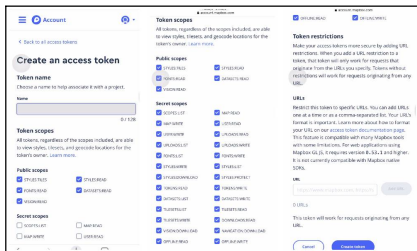

Figure4
2.5 Enter token name and select applicationscopes, then click on "create token". (See Figure 4)